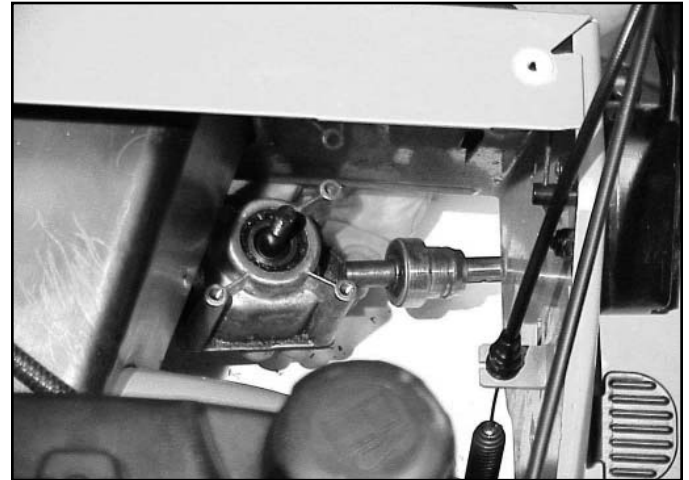

Fig 104
16. Push the transmission to the left, as shown, and rotate to clear the tunnel. Drop the left side down, then pull the assembly out to the left side (Fig. 104).